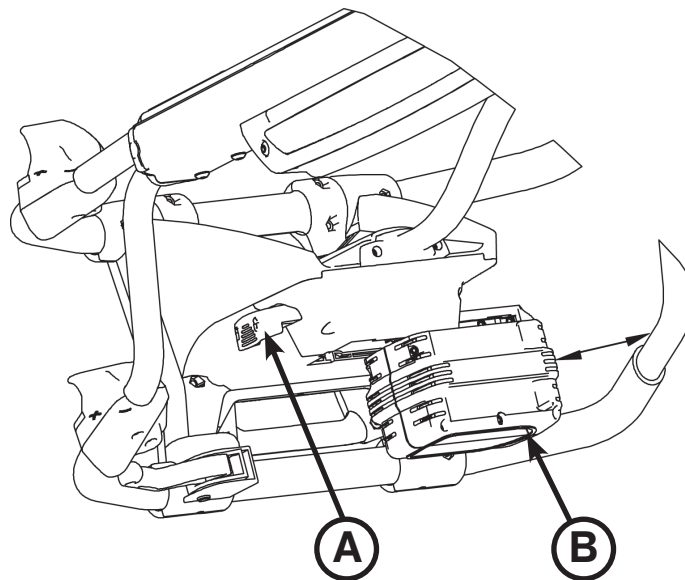

Figure 21: DeWALT® Battery Removal & Replacement
1. Press the red battery release button (A), located on the patient left side of the foot end control enclosure, to release the battery (B) from the cot as shown in Figure 21.